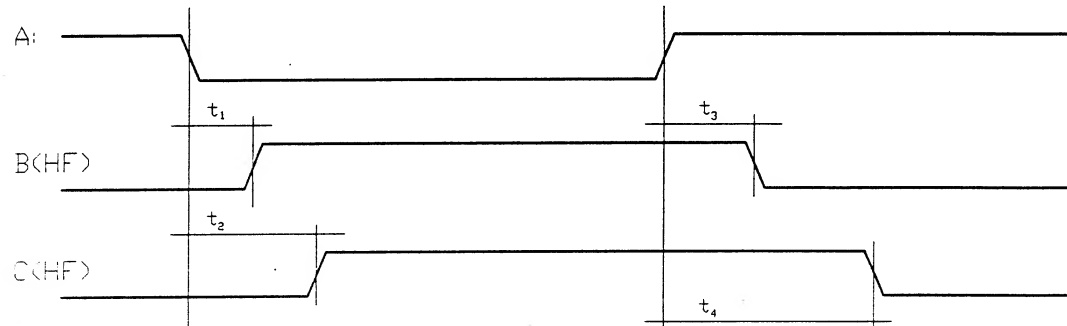

fig. 3a
- Press **F2**(h_fault) and measure t1 and t2 as indicated on figure 3a. Next, connect